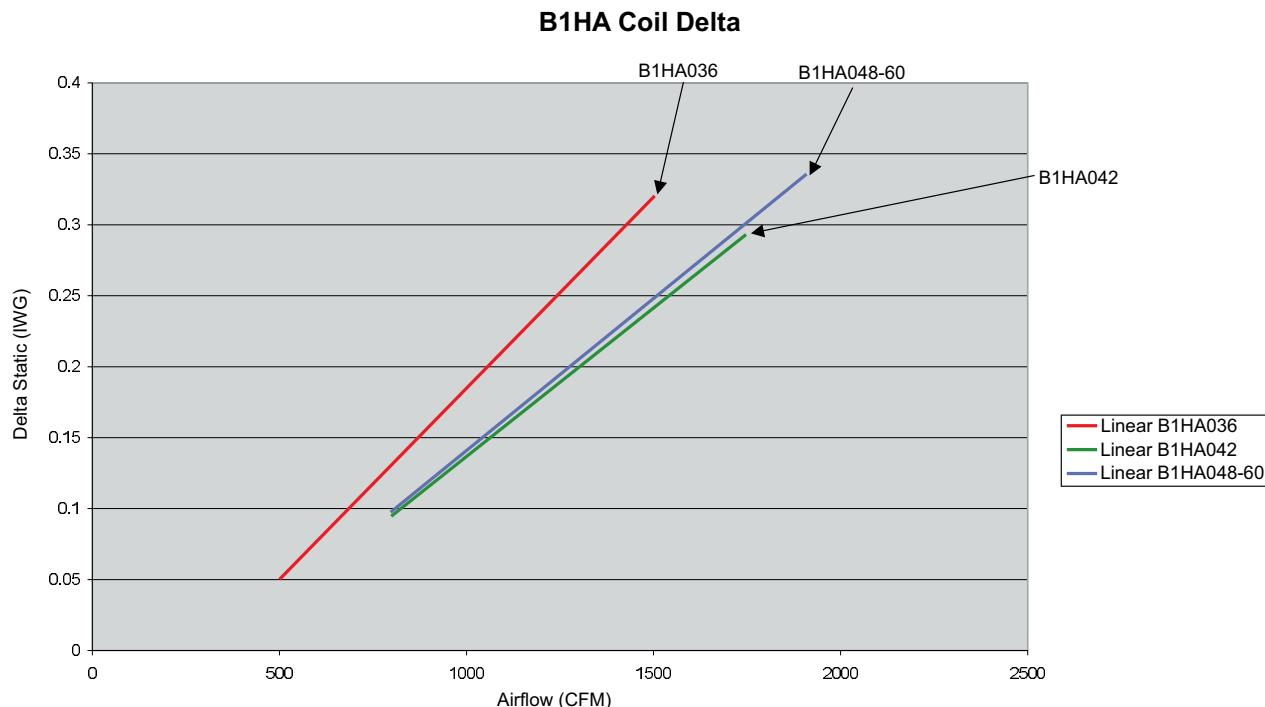

FIGURE 3 - Coil Delta P vs. Supply Air CFM
4. Knowing the pressure drop across a dry coil, the actual CFM through the unit can be determined from the curve in Coil Delta P vs. Supply Air CFM Figure 3.